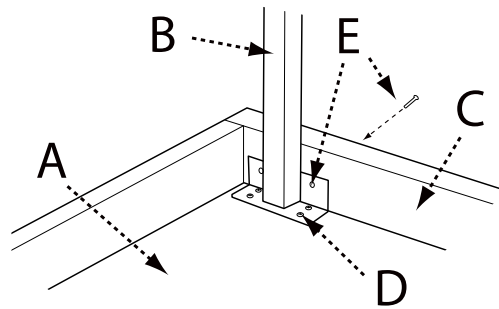
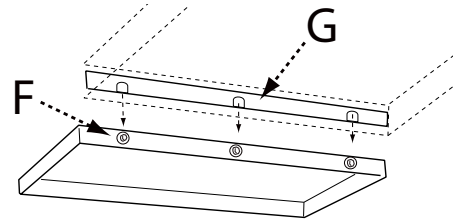
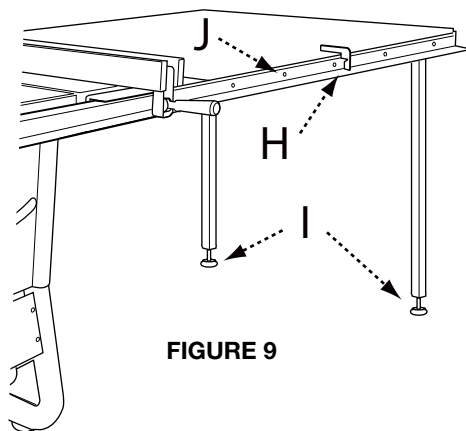

FIGURE 7
FIGURE 8
FIGURE 9
1. Lay the wood table (A) upside down on floor or bench.
2. Position legs (B) in corner as shown (fig 7) the vertical wall of the angle plate on the leg should be against the end wood wall (C) of the table.
3. Fasten the legs to the table board with (8) #8 x 3/4" self-tapping screws (D).
4. Carefully drill through the holes in the vertical angle plate holes and the wood wall of the table with a 1/4 inch drill. Feed the #10-32 X 1 1/4" screws with #10 flat washers (E) through the drilled holes from the outside, then assemble the nuts onto the screws and tighten.
5. Loosely assemble (3) 5/16-18 x 7/8" screws with spring washers, flat washers and nuts (F) into the three holes into the side of the extension wing as shown. (fig 8)
6. Carefully lower the slotted steel angle table bracket (G) down onto the screws on the extension wing. Tighten the screws after the wood table is leveled with the extension wing.
7. Using the rail alignment gauge (H) adjust the feet in the legs (I) so the top of the table is at the proper distance from the rail.
8. Drill 1/4 inch holes through the rail holes (J) into the wood table on the front and back rails. (fig 9)